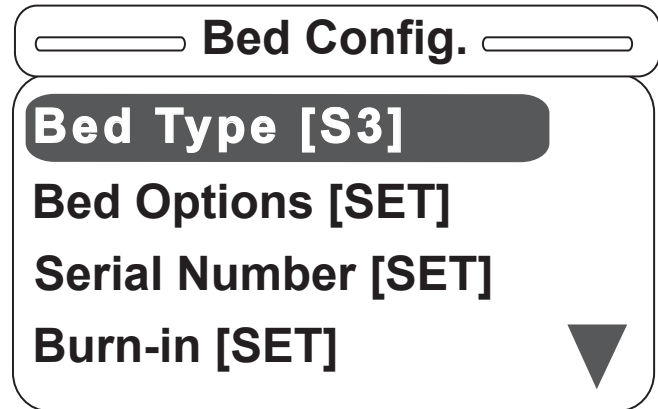

Figure S-31
29. Once all Bed Config. items are set, the main screen will be displayed as in Figure S-31.